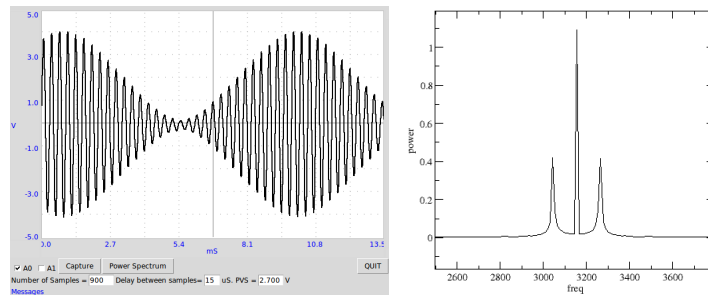

Figure 4.12: Modulated wave and its Fourier Spectrum.
**Observation** A carrier signal having a frequency of around 4kHz is modulated by a sinewave of around 100Hz. A small portion of the output (400 points with 20 usec gap) along with the modulating signal is shown in figure 4.12(b). Power spectrum is calculated using Fourier transform. To get better results a larger sample (1800 samples with 50 usec gap) is taken for this purpose. The two sidebands are clearly obtained on both sides of the carrier peak, separated by the modulating frequency.